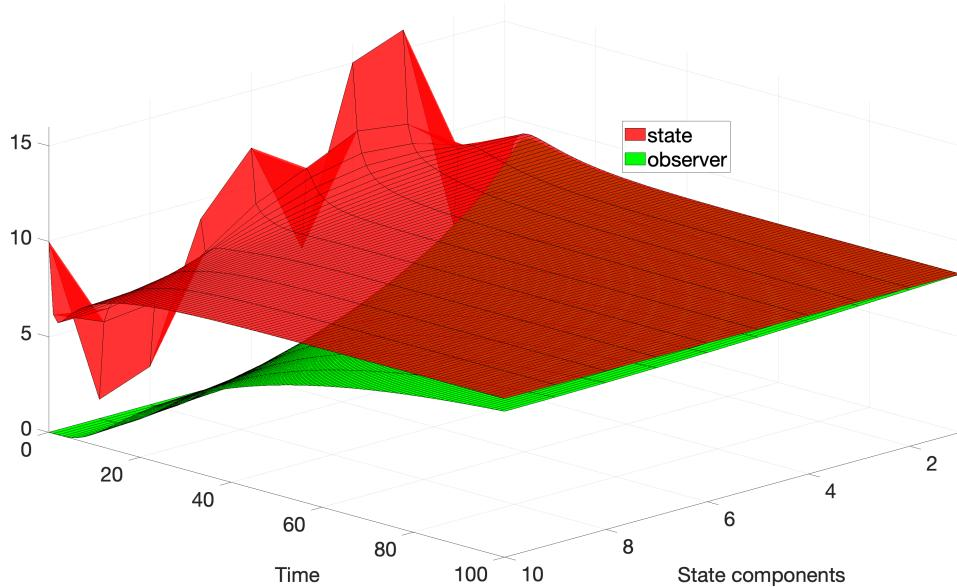

Figure 1: Evolution of the state of system (1) and an estimate.
- 1.3. Use a ‘To Workspace’ block to send the history of the system state to the work environment (feel free to ‘decimate’ to 100 not to have too many points). In a Matlab file, write a script to display this history similarly to what is displayed in figure 1 (you can use the commands `surface` and `view` for that).
- 1.5. Add the history of the state estimate into your Matlab script so that it is superposed to the history of the plant state (see figure 1).